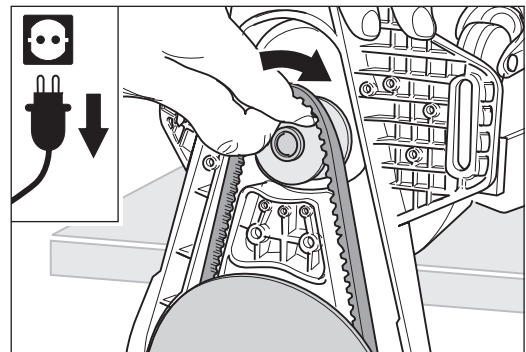

Fig. 41 Insert the V-belt into the motor pulley.
- 5 Push the attachment over the motor pulley and insert the V-belt into the motor pulley (Fig. 41).